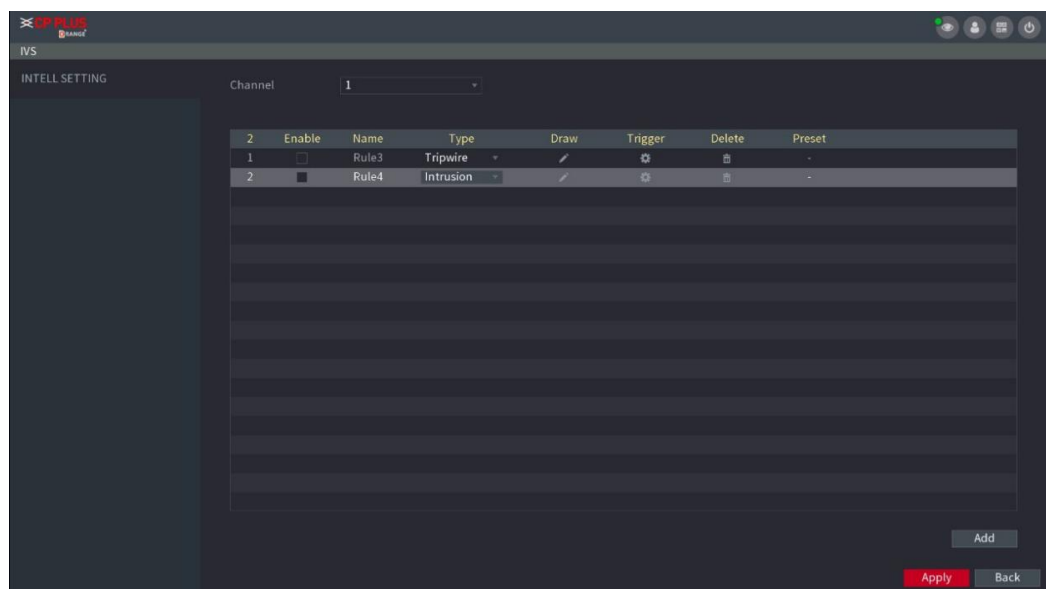

Figure 5-121
**Step 1** On the rule line that you added, in the **Type** list, select **Intrusion**. See Figure 5-121.